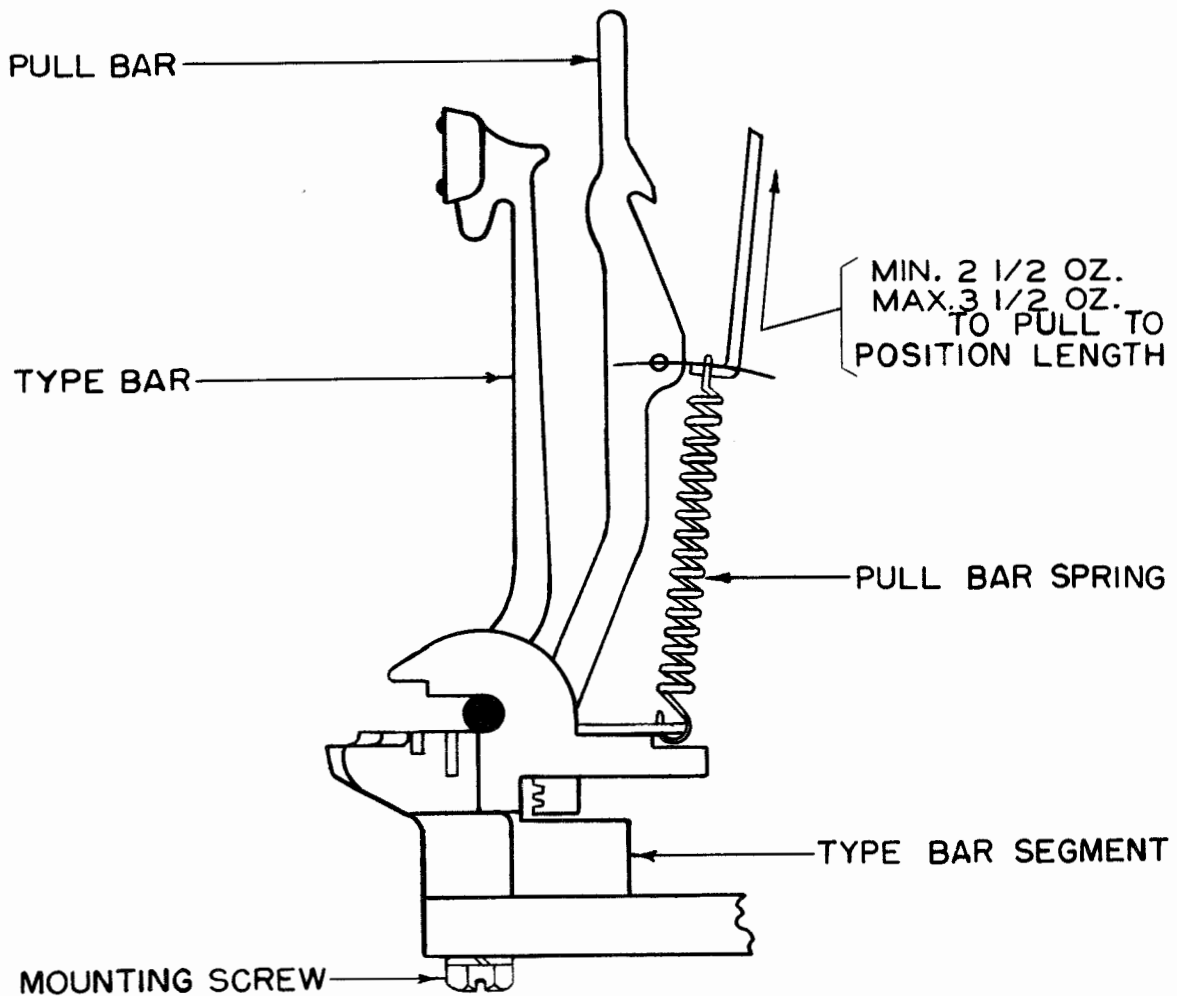

Figure 2
2.03 Pullbar Springs: The pullbar springs should have a tension of minimum 2-1/2 ounces, maximum 3-1/2 ounces. See Figure 2.